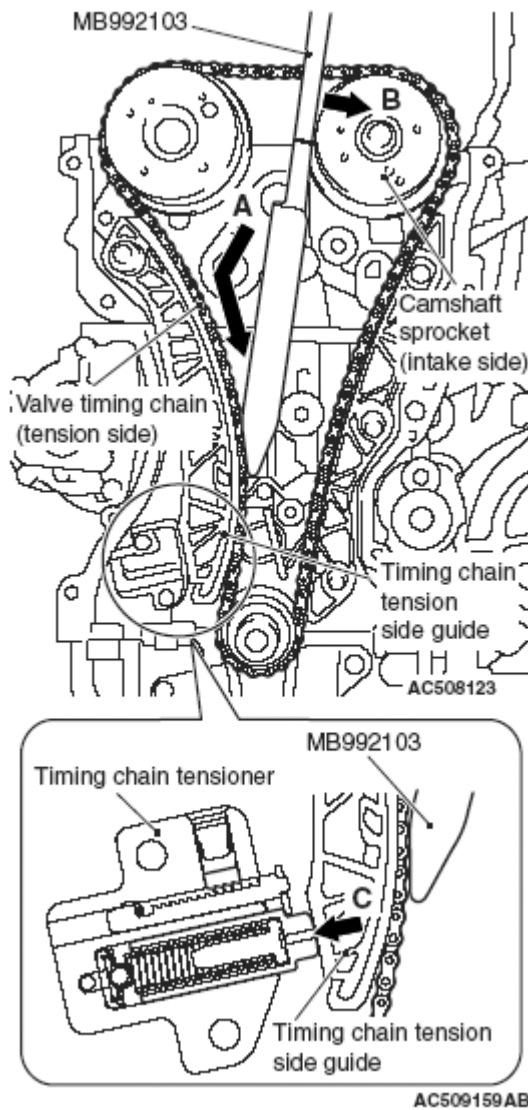

Fig. 38: Intake Side Camshaft Sprocket And Valve Timing Chain
2. With the timing chain tensioner unlocked, insert special tool MB992103 inside the timing chain case assembly along the tension side of the timing chain until the insertion guide line aligns with the upper surface of the timing chain case assembly (**Fig. 38**).
to the position where the special tool MB992103 insertion guide line aligns with the timing chain case assembly top surface (Fig. 38), and the spread timing chain tension side guide can be held (Fig. 38).